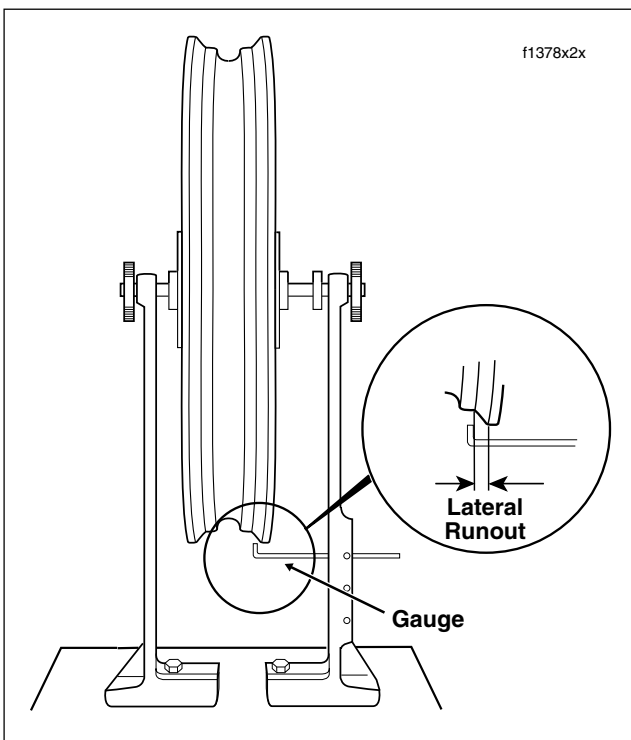

Figure 2-16. Checking Rim Lateral Runout
2. See Figure 2-16. To check rim lateral runout, place a gauge rod or dial indicator near the rim bead. If lateral runout exceeds 0.040 inch (1.02 mm), replace the wheel if cast. Retrue the wheel if laced.